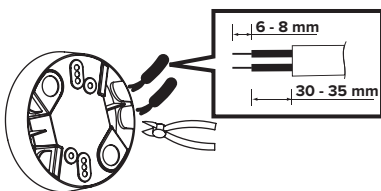

FIG. 12
- In order to feed the wiring through the recesses on the side of the housing, these marked but still covered holes must be cleared with side cutting pliers. Then feed the wiring through the cleared holes and strip the insulation of the wiring 6-8 mm (FIG. 12).